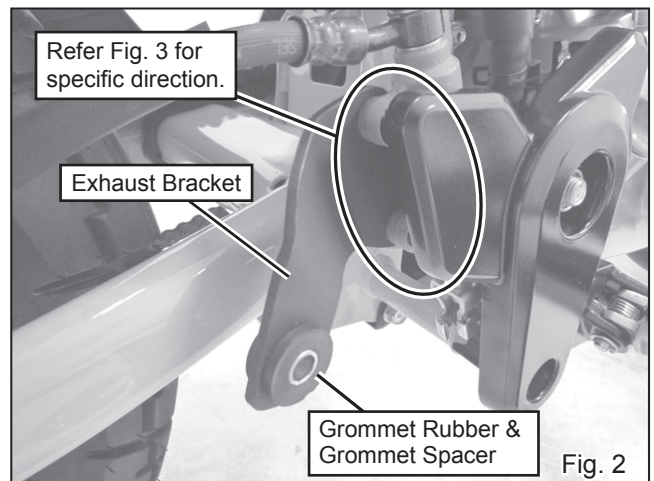

Fig. 2
- 3) Install Grommet Rubber and Grommet Spacer on Exhaust Bracket. (See Fig 2)
- 4) Remove 2 of stock bolt which are mounting rear brake master cylinder, put Exhaust Bracket and mount them together with 2 of each Cap Bolt M6x25 and Washer M6. Tighten and torque Cap Bolt M6x25. (See Fig. 2 & 3)